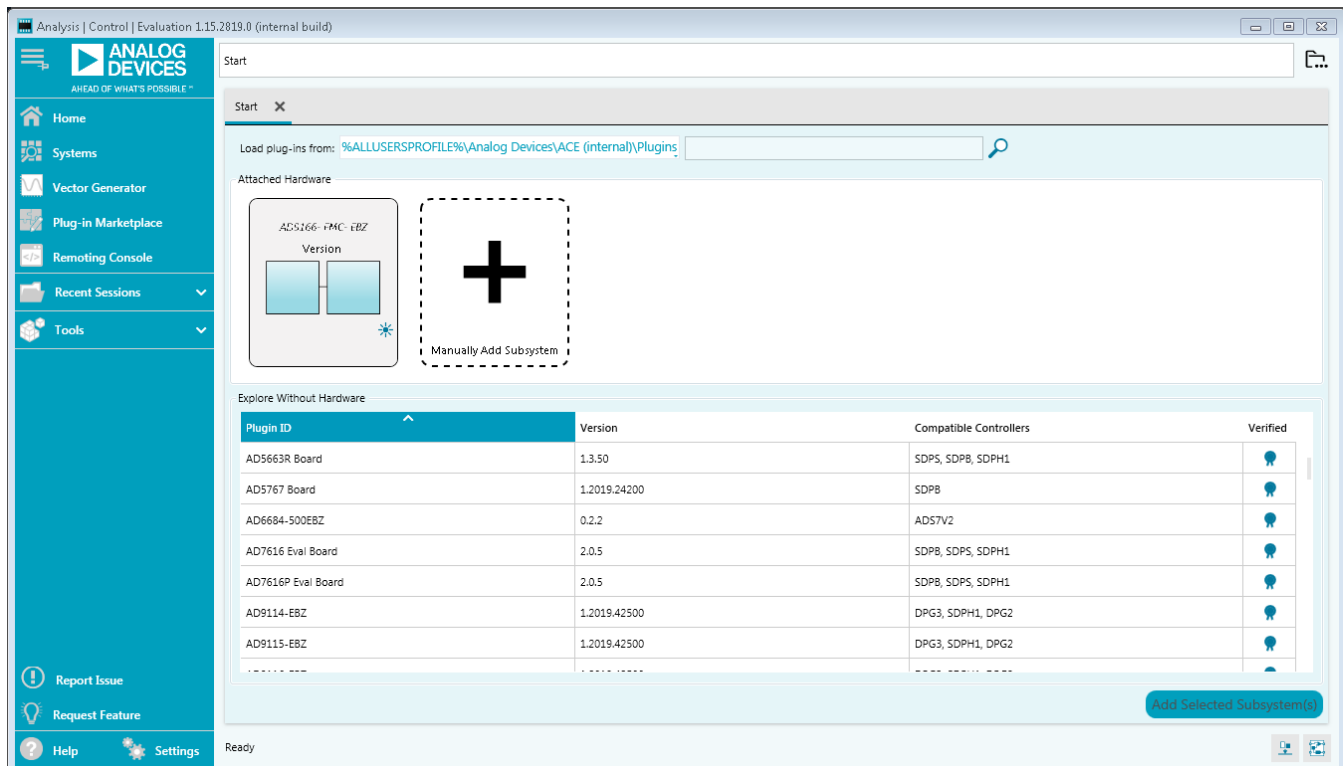

Figure 5. ACE Software Window
2. Open the ACE software from **Start > Programs > Analog Devices > ACE**. A window appears similar to Figure 5.
3. Open the evaluation board view by double clicking the AD9166-FMC-EBZ evaluation board icon, as shown in Figure 5.
1. Open the ACE software from **Start > Programs > Analog Devices > ACE**). A window appears similar to Figure 5.
2. Open the evaluation board view by double clicking the AD9166-FMC-EBZ evaluation board icon, as shown in Figure 5.